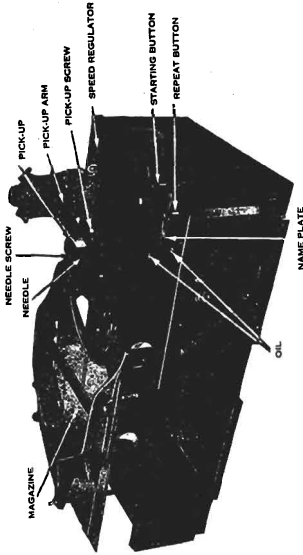
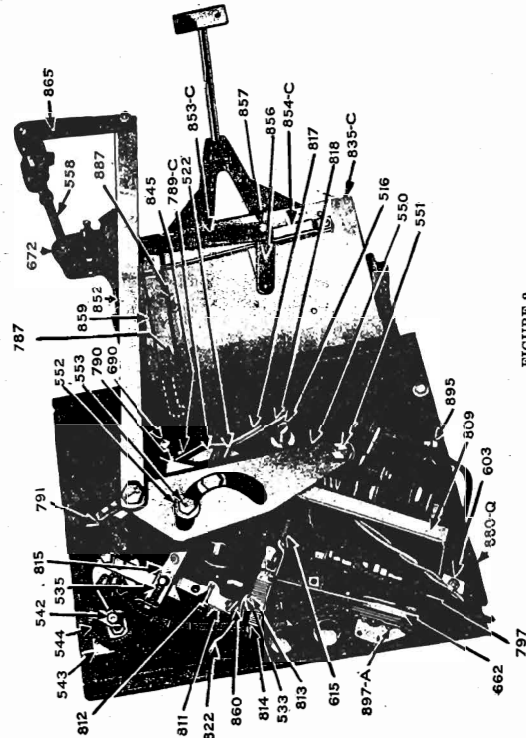
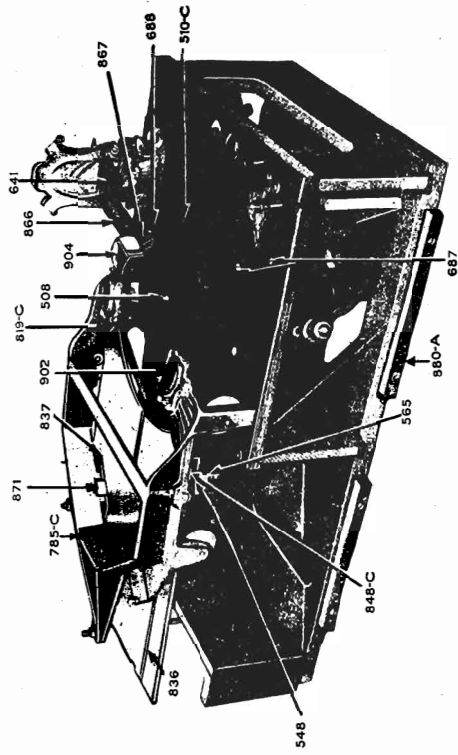

FIGURE 5
FIGURE 2
FIGURE 3
stopped in its travel away from the center of the record the Finger on (Fig. 2) Cam 1290 attached to the top of Cam B-3715 engages with indicator finger A-7639 attached to indicator unit shaft A-6002.
Cam B-3715 revolves further, exerts additional influence on the indicator finger causing the (Fig. 3) indicator C-620 and kick-off arm A-6117 attached to it to describe a half circle. Kick-off Arm A-6117-A pushes record to be discarded into the receiving compartment.
The movement of switch Cam 1297 causes switch 1266 (not shown) to move the pin on the end of Follow-Arm 1271 from the inner to the outer groove on (Fig. 2) Cam B-3715.
TO ADJUST MECHANISM SO (Fig. 1) PICK-UP UNIT A-6126 COMES DOWN IN THE PROPER PLACE, adjust (Fig. 5) Screws 13830-7 and 13830-8 in and out as required. Keep the front surface of Follow-Arm 1271 parallel.
TO MAKE (Fig. 8) STOP SWITCH 1412-AA CUT OFF AT THE PROPER PLACE which occurs when (Fig. 1) Pick-up Unit A-6126 drops to its lowest position with no record on the Turntable, adjust screws which hold (Fig. 3) Stop Switch 1412-AA by loosening or tightening the front screw and the holdout screw where the Stop Switch fastens to the top plate.
TO ADJUST MECHANISM SO NEEDLE TRIPS ON INNER CIRCLE OF COLUMBIA RECORDS adjust (Fig. 2) Pawl Arm 1294 by means of screws which attach it to Bracket 1269 so that Pawl Spiral 1245 trips on vertical part of Trip Lever 1233. Spiral Pawl 1245 should clear serrated surface on Trip Lever 1294 by about 1/32".
IF NEEDLE FAILS TO SLIDE FROM THE SMOOTH PART OF RECORD into the grooves it is probably due to the (Fig. 1) Pick-up Arm C-621 being tight or not properly adjusted (Fig. 3) Bracket 1269 should be tilted toward the discard compartment at top, which gives a natural tendency for the (Fig. 1) Pick-up Unit A-6126 to swing toward the center of record. This can be effected by loosening screws which hold (Fig. 3) Top Bearing Plate 1342-A and moving the Plate to the proper position. If Pick-up Arm is then out of center with the hole, it can be readjusted by Pivot Screws 1270.
The position of the Kick-off Arm is regulated by (Fig. 2) finger A-7639 bearing against Cam A-6122. This finger is adjusted by the adjusting screws in adjusting block A-7637. The adjusting block is fastened to spindle A-6022 by set screw 1371.
Dog 813 *figure 2* for eccentric groove records and Spiral Trip Dog 533 for spiral groove records is attached to Pick-up Arm Lever 811 by means of Adjusting Stud 860 and Adjustment for Pick-up Lever 812. Pick-up Arm Lever 811 is attached to Pick-up Unit 904 *figure 3* by means of Yoke 867 and Pick-up Arm 866 which is connected to Bracket 810 *figure 4*, onto which Pick-up Arm Lever 811 *figure 2* is attached by means of two screws 155 *figure 4*. This whole device is allowed to swing from right to left due to its attachment to Standard 788 by the Dog Point Set Screws 823 which fit into the Bearing in Bracket 810.
When Trip Lever 814 *figure 1* is tripped, it allows Throwout Lever 822 to drop, and this causes Clutch Lever 816-C to push Clutch 526 into the Pins of Clutch Collar 527-C which is revolving; acting through Worm Gear 514-C which is driven by the Worm in Drive Shaft 793 connected to Motor by means of Drive Spring 877. The connecting of this Clutch causes worm shaft 524-C which is meshed with Cam Worm Gear 523 to cause Cam 789 to revolve and lower the Turntable to the "swing back" elevation. This is accomplished by Lift Lever 817 *figure 2* which is operated by Cam 789 *figure 1* acting on the bottom of Turntable Shaft 507-C, through Turntable Lift 516 *figure 2* and Adjustment 818 to which the Turntable Shaft is attached.
Returning to the action of Cam 789 *figure 1* as it rotates further, Turntable 510-C's drops to the discard position, allowing the record to come in contact with Discard Rubber 650 *figure 4*. This raises the record above Receiving Stud 508 *figure 3* and the rotation of Turntable 510-C's then causes the record to be discarded into the Receiving Compartment.
Before the Cam 789 *figure 1* allows the Turntable to be moved into the discard elevation, and while the Turntable is still in the "swing back" elevation, the Pick-up Unit is swung away from the record by means of Index Lever 815 *figure 2* which is connected to the Pick-up Arm through Pick-up Arm Lever 811. The inner end of the slot in Index Lever 815 acts on Pin 763 *figure 1* that revolves with the Cam in a clockwise motion. It is through this means that the Pick-up is swung away from the record.
When Cam 789 *figure 1* starts to revolve, Eject Arm 790 *figure 2* also starts to revolve as it is driven by Dog 522. Roller 552 attached to Eject Arm 790, travels in the slot in Drive Lever 550 and causes it to move from the left to right, which moves Eject Slide 835-C and brings the center of the record over Receiving Pin 508 *figure 3* in Turntable 510-C's. This motion is caused by Drive Lever 550 *figure 2* acting through Link 852 attached to Lever 865 which is pinned to Shaft 558 connected to Top Lever 858-C which acts on Transverse Lever 854-C through Link 856. The Transverse Lever is connected to the twelve inch record Regulating Lever 859 which is fastened to Eject Slide 835-C by means of the Stud in the "L" shaped slot. This Stud remains in the "L" end of Lever
859 and allows Slide 835-C to place a ten inch record in the proper position over Receiving Stud 508 *figure 3*.
In case a twelve inch record is on the Slide, Centering Lever 850-C *figure 4* is pushed out by the twelve inch record where its tail end trips the Eject Slide 835-C moves forward, causing the Stud to leave the "L" end of the slot in Lever 859 allowing Eject Slide 835-C to travel just far enough to place a twelve inch record over Receiving Stud 508 *figure 3*.
Ten or twelve inch records can be used without discrimination. The engagement of the needle on ten or twelve inch records is controlled by Engaging Regulator Weight 872 *figure 4* acting on Cable 900 which is attached to Index Lever 815 *figure 2*. When the Weight is allowed to act, Index Lever 815 is pulled over and the long slot engages on Pin 763 *figure 1* causing the Pick-up Unit to swing into the proper place to engage on a 12" record. If Regulator Weight 872 *figure 4* is not allowed to act, Index Lever 815 *figure 2* is carried over by means of Drag Link 680 *figure 1* so that the short notch engages on Pin 763 and the needle engages at the proper place to start a 10" record. Whether or not the Weight 872 *figure 4* is allowed to act depends on Shaft 824 which, when under Weight 872, keeps the Weight from acting. Shaft 824 is controlled by Engaging Regulator Arm 787.
When a 12" record is fed out, Centering Lever 850-C *figure 4* is pushed out. The Finger on it carries Arm 787 out with it, swinging end of Shaft 824 from under Weight 872, allowing 872 to act. Shaft 824 will remain in this position until a 10" record is fed out of the Hopper. Thus, a 12" record may be repeated on the Turntable as many times as desired. When a 10" record is fed out of the Hopper, Eject Slide 835-C *figure 2* goes out farther over the Turntable, allowing Pin 887 to come in contact with Arm 787 causing it to move so that Shaft 824
Again returning to the motion of Cam 789 *figure 1* further rotation of this Cam causes the Turntable to rise to receiving elevation in time to receive the record which has been moved to the positions just described. The Turntable remains in this position while the Cam rotates further, allowing Roller 552 *figure 2* which is attached to Eject Arm 790, to travel in the slot in Drive Lever 550 and return Eject Slide 835-C to its original position. As soon as Eject Slide 835-C has returned to this position, Cam 789 *figure 1* has revolved to a position where it allows the Turntable to drop to the "swing in" elevation.
At this time Pin 763 *figure 1* has revolved far enough to connect with either the ten or twelve inch notch in Index Lever 815 *figure 2*. Its further revolution causes the Pick-up to swing in over the record so the Needle rests on the smooth part of the record as the Turntable is raised to reproducing elevation by means of Cam 789 *figure 1*. Regulating Weight Lever 872 *figure 4* on Standard 788 now causes the Pick-up to move over from the smooth part of the record to the first reproducing groove. Reproduction of the record begins at once.
When the Pick-up Unit first swings away from the record, Pick-up Arm Lever 811 *figure 2* passes under the tail of Throwout Lever 822 *figure 1*, causing it to rise to a position where the notch in Trip Lever 814 is allowed to enter its proper place under the lug in Throw-out Lever 822, holding Throwout Lever 822 in this
position after the Pick-up Arm Lever 811 *figure 2* no longer supports it. When the Throwout Lever is raised to this position, a spring tension is created which pulls on Clutch Lever 816-C *figure 1* attempting to pull back and open Clutch 526 but Clutch Lever 816-C is held in the engaging position by means of Control Disc 864-C until the Cam has completed its entire revolution when a notch in the Control Disc allows the Clutch Lever to follow the urge of the spring and disengage the Clutch.
In case it is desired to play the same record over, the repeat Button *figure 5* is moved to the left. This moves Repeat Lever 809 *figure 2* causing it to press against Drive Dog 522 causing Arm 790. Eject Drive Arm 790 remains stationary and the Eject Slide does not move. The Cam revolves and the Turntable goes through all of the elevating positions except the discard elevation. Eject Arm 790 does not allow Roller 845 to drop to the discard elevation in Cam 789 *figure 1*, thus the record will be repeated until the Repeat Lever is moved to the right.
When Eject Slide 885-C *figure 4* comes forward, the bottom record is caught between the "Y" shaped plates 836 and 837 *figure 3* which brings the bottom record forward with the Slide. The other records slide over the top of these "Y" shaped plates and remain in the Hopper. Only the bottom record is allowed to come out of the Hopper onto the Turntable. Other records are prevented from coming out by means of the two Admitters 819-C which are devised so they gauge themselves according to the thickness of the record. Thick, thin or warped records are fed out through the action of the admitters without injury to the records or mechanism. The admitters are held down against the record by means of springs and are adjusted by Screws 902. Back Stops 871 prevent records from sliding too far back in Hopper.
If a ten inch record is on the bottom, and is not in the center, it is forced into the center by the two Centering Levers 850-C *figure 4* and 848-C *figure 3* which are held in position under tension by Springs 569 *figure 4* and 565 *figure 3*. These Springs are right and left hand and are attached to bushings in Studs, which have right and left hand threads and have a tendency to keep the spring from unscrewing the studs and nuts which hold them.
In starting or rejecting records, the Starting Button *figure 5* is pressed. When this Button is pressed slightly, it causes the contacts in switch 897-A *figure 2* to be spread apart which changes the fields in the motor from a series connection to a parallel connection for a greater starting torque. Pressing down further causes Lever 662 *figure 2* to act against Throwout Lever Trip 814 and trip mechanism which discards the record. This is the same action as though it were tripped with the Dogs 813 or 814.
Pick-up Switch 898-A *figure 4* is attached to the back of Standard 788. When the Pick-up is not resting on a record, the Pick-up Arm drops down, swiveling at Trunnion Pin 641, *figure 3*. This allows the Brake Shoe on Pick-up Arm 866 to rise and press against Cork Insert 623 *figure 4* which is in the Brake Adjustment 585. This retards the Swinging action of the Pick-up and allows it to move only when forced by Index Lever 815 *figure 2*. This Brake Adjustment 585 can be regulated to bring the Pick-up to the height desired and is locked in place by a nut.
Through the center of Brake Adjustment 585 is a Fibre Rod 590 *figure 4* which also rests on Brake Shoe 974 and is raised whenever the Brake is closed. The upper end of this acts on the Contact Spring in Switch 898-A and causes it to open the Switch and break the entire circuit, acting the same as the Clutch Switch in parallel with it. With both of these switches open, the power supply is entirely cut off. Also, when this switch is open a contact is formed with the upper part of the Switch which cuts out Speed Regulating Rheostat No. 544 *figure 2* and allows the full power to be used while the Cam is in the operating cycle.
upper side of the motor board *figure 5* are two (2) pipe plugs marked "OIL." Remove these plugs and inject a quantity of oil in the tubes under them. This lubricates both armature shaft bearings. The wick type oil wells used on the bearings keep the bearings well lubricated for a six (6) months period of normal operation.